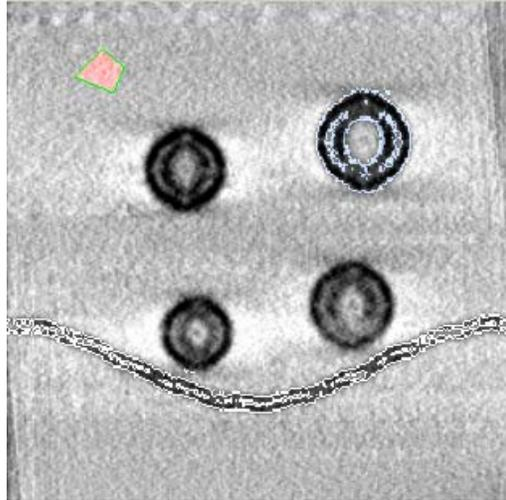

Figure 23: Manual segmentation to establish a signal-to-noise ratio reference.
- Select the **Manual** tab to initialize the segmentation. Select **Piecewise** mode and outline a small portion of the ‘background’ region. Select either the **Up** or **Down** buttons to create a volume of ‘empty’ space in the background area (see Figure 23). It is necessary to select only a few volume slices; the goal is select about 5,000—10,000 voxels so that the noise estimate is not significantly affected by counting statistics.